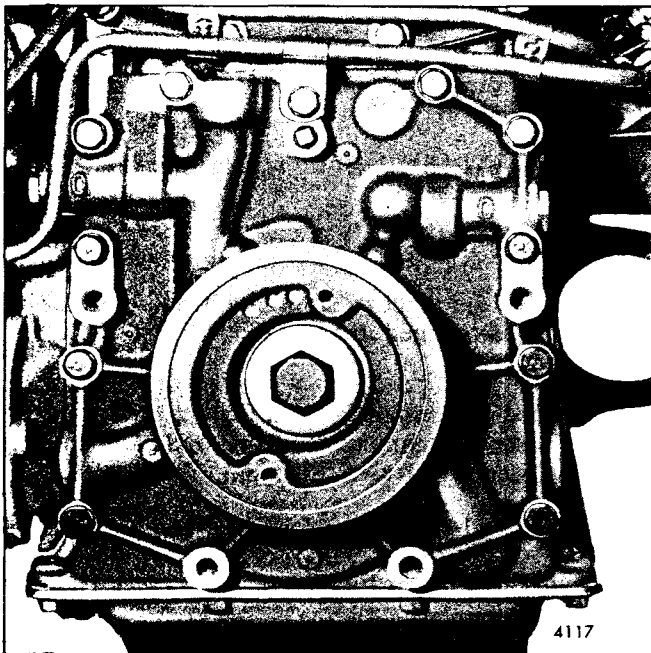

Fig. 1 - Engine Front Cover Mounting (Lower)
The engine lower front cover is mounted against the cylinder block at the lower front end of the engine (Figs. 1 and 2). It serves as a housing for the crankshaft front oil seal, the lubricating oil pump, the oil pressure regulator valve and the oil cooler by-pass valve. The clean-out openings in the periphery of the current cover incorporate tapped holes and 1/2"-14 threaded plugs.
6. Refer to Figs. 1 and 2 and install the 3/8"-16 bolts and lock washers. Tighten the bolts to 30-35 lb-ft torque.